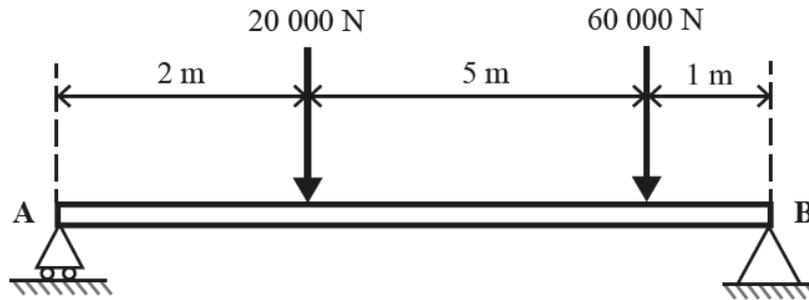

Fig. 5
- (b) Fig. 5 shows a beam of length 8 m simply supported at each end with supports A and B. The beam is subjected to two downward forces of 20 000 N and 60 000 N at the positions shown. The self-weight of the beam is negligible.
(ii) Draw a labelled bending moment diagram for the beam in Fig. 5 on the grid below.